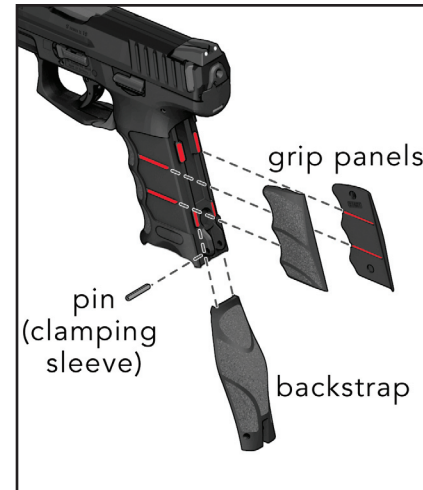
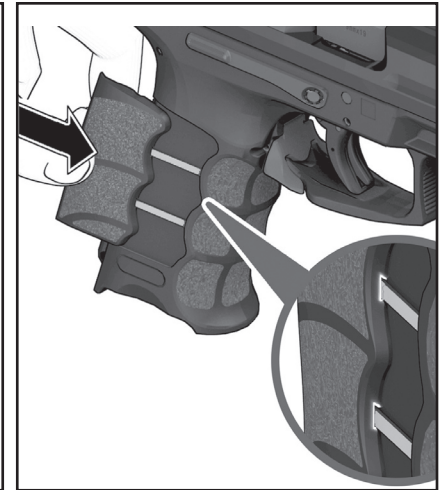

Figure 5
Figure 6
1. Using a 2.8 mm pin punch, remove the pin (clamping sleeve) holding the backstrap in position. Choose the combination of backstrap and grip panels that provide the most comfortable fit for the operator (see Figure 5).
2. Install the two grooves on the inside of each grip panel onto the corresponding tongues located on the outside of the frame (Figure 5 and Figure 6) and push the panels forward until they seat flush into the frame.